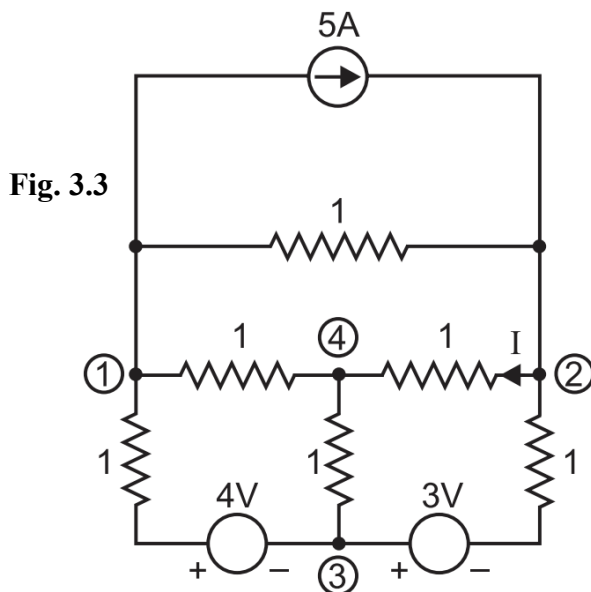

**Fig. 3.1**
1. Use nodal analysis to find the nodal voltage and currents in 1 Ohm and 2 Ohm resistors of the circuit shown in Fig. 3.1